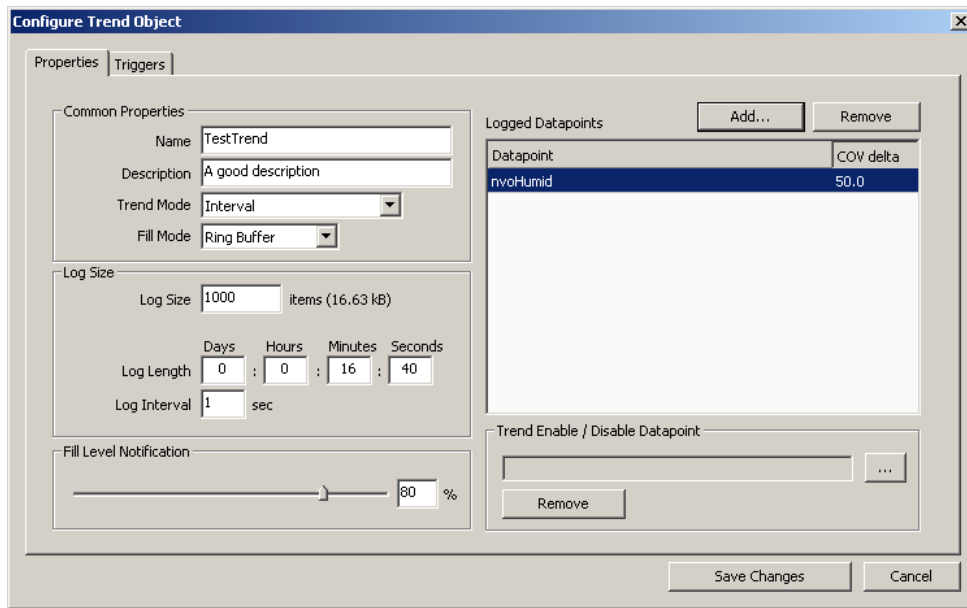

Figure 108: Basic Trend Object Configuration.
3. In the **Create New Trend Object** dialog (shown in Figure 108) enter a name and optionally a description for the trend log object.